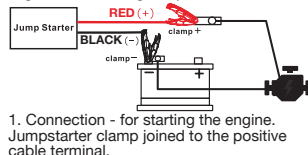

Fig 7
**Note:** If the Vehicle's battery is too flat to initiate the vehicles ECU, the LCD will show the Fault / Bypass / Glow Indicator (7) when using the weak/flat battery, please resort to Bypass Mode using the following steps.
2. Connect the Batteryless Jump Starter to the vehicle as shown in Fig. 7. Disconnect the positive cable terminal from the vehicle's battery. Attach the Positive Battery Clamp **RED** (1) of the Batteryless Jump Starter to the positive battery lead terminal of the car. ENSURE that the battery lead can be reconnected to the battery WITH the Batteryless Jump Starter clamp still attached. (Ensure that the battery terminal hole is not obstructed by the Positive Battery Clamp **RED** (1).
3. Attach the Negative Battery Clamp **BLACK** (2) to the negative battery terminal (or relevant negative jump starter connection point of your vehicle)